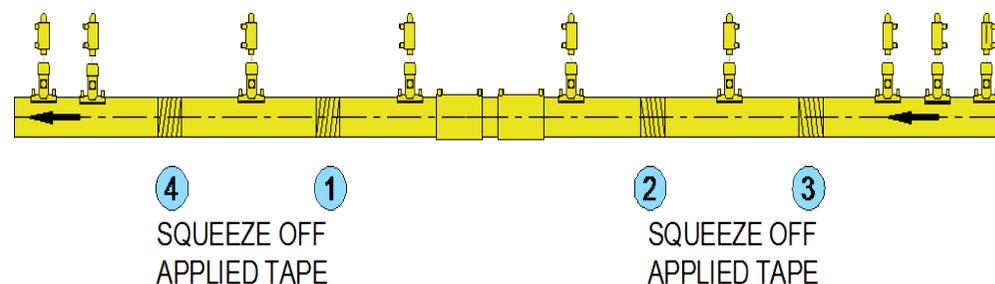

Figure 57-Squeeze-Off Tape
1. Remove flame trap on the top of vent E, see Figure 57.
Place 'Squeeze off applied' marker tape onto the pipe see Figure 57.